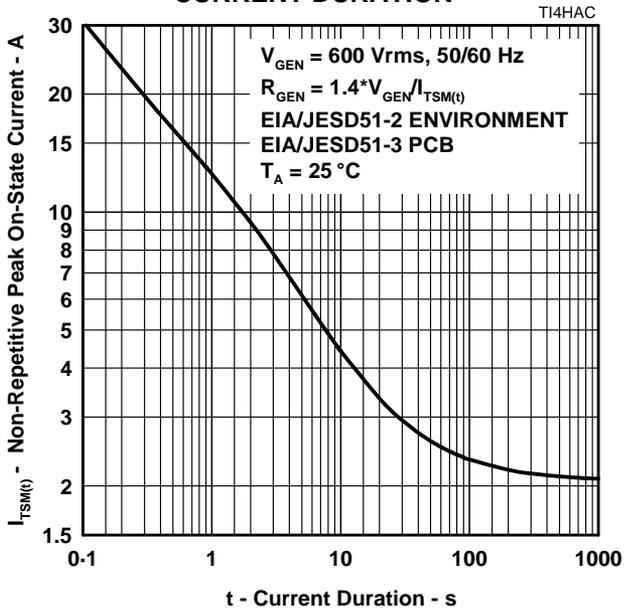

Figure 6.
4. EIA/JESD51-2 environment and EIA/JESD51-3 PCB with standard footprint dimensions connected with 5 A rated printed wiring track widths. See Figure 6 for the current ratings at other durations. Derate current values at  $-0.61\text{ \%}/^{\circ}\text{C}$  for ambient temperatures above  $25\text{ °C}$ .